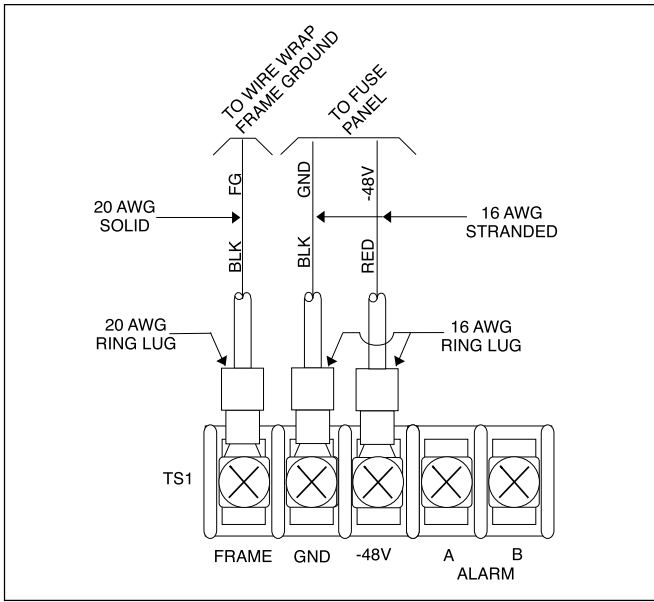

Figure 3. TS1 Power & Ground Connections
5. Connect a fused -48 Vdc supply and return, that is electrically isolated from an AC source, to -48 V and GND on TS1 (see **Figure 3**). Fuse rating depends on the type of circuit cards deployed. Maximum current for the shelf PCB is 15 A.
6. Connect frame ground to TS1 FRAME (see Figure 3). Because the 48 V return (TS1 GND) is isolated in the shelf, connect it externally to a central ground.